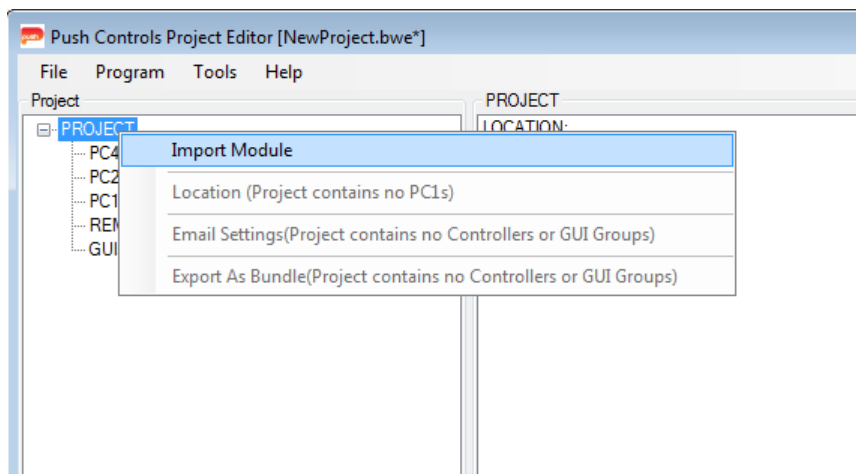

Figure 1 – Right click on PROJECT, inside the project tree, to import a module.
- Right click on 'PROJECT' at the top of the tree and select 'Import Module'. *Refer to Figure 1*